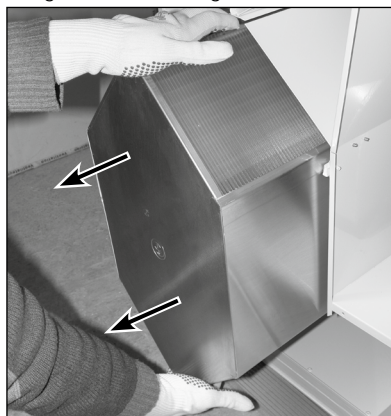

Fig. 12
4. Remove the heat exchanger from the unit to reduce the weight (see Fig. 12).